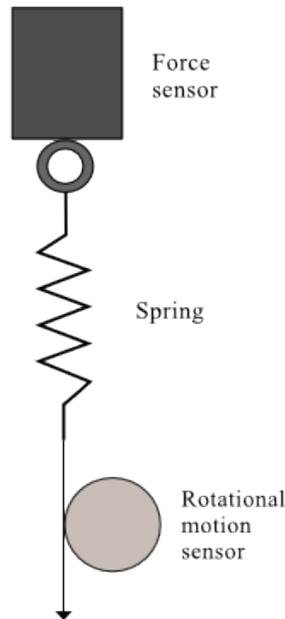

Figure 3: Apparatus setup for the Hooke's Law experiment
The apparatus setup shown in Fig. 3 will be used to find the spring constant for spring 2.
- 12 Replace the 1-kg weight with the spring. Attach a piece of string to it. Wrap the string around the **large** pulley of the rotational motion detector in a counterclockwise direction as depicted in Fig. 3. The rotational motion detector has been calibrated to read the linear distance.
- 1 In the experimental setup from Fig. 3, replace the spring with the long rubber band.